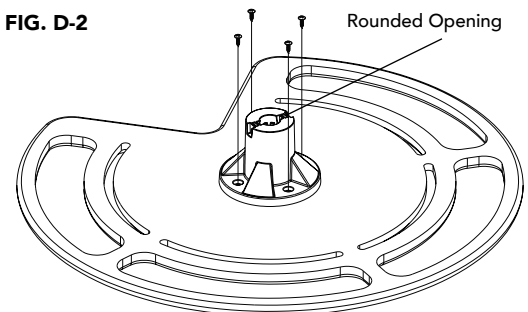

FIG. D-1
Install the nut and screw to the top hub (See Figure D-1) before attaching to the tray. Attach the top hub to the bottom of the upper tray using (4) 8 x 5/8" truss head screws in the pre-drilled hole locations.